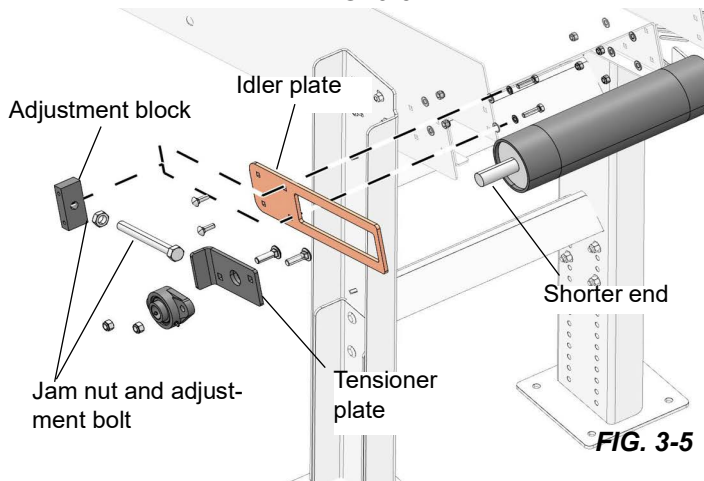

FIG. 3-5
1. Install the drive roller (longer shaft) and all the hardware on the side where the support frame was mounted as shown in FIG. 3-5.
12. Assemble the idle side bearing on the tensioner plate as shown in FIG. 3-5.